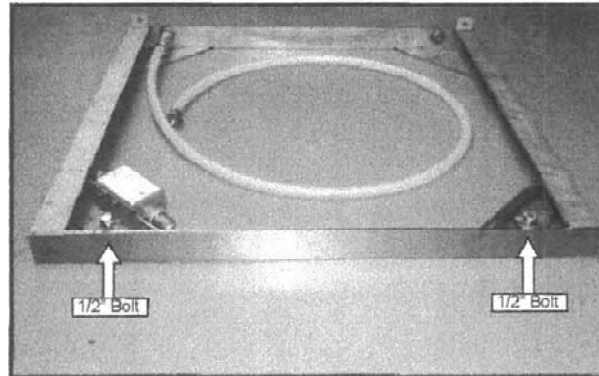

Figure 6 Installation Base 1/2" Bolt Removal
2. Remove the two 1/2" bolts from the front of the installation base. See Figure 6.